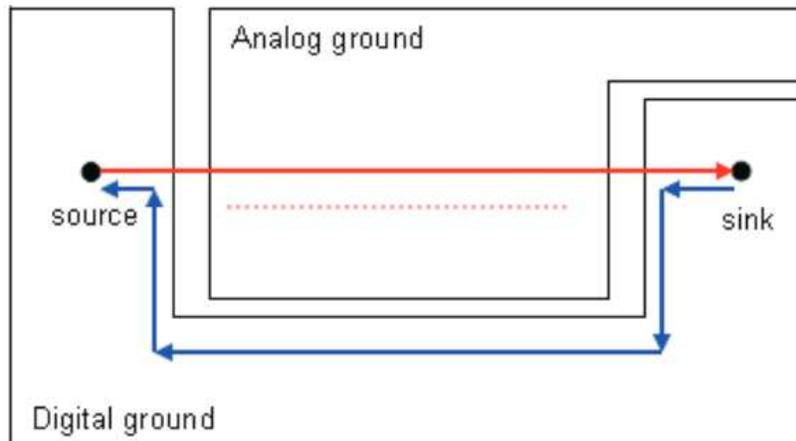

Figure 21. Loop Area and Crosstalk Due to Poor Signal Routing and Ground Splitting
- A routed trace over a gap creates large loop areas, because the return current cannot flow beside the signal, and the signal can induce noise into the nonrelated reference plane (Figure 21).